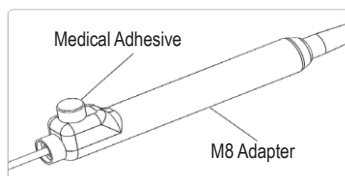

Figure 3: Medical adhesive covering the septum seal plug.
11. Apply a medical adhesive (e.g. Dow Corning Silastic® Medical Adhesive Silicone, Type-A Sterile, as available from Boston Scientific, part no. SC 4320) to coat and seal the top of the set screw port (Figure 3).